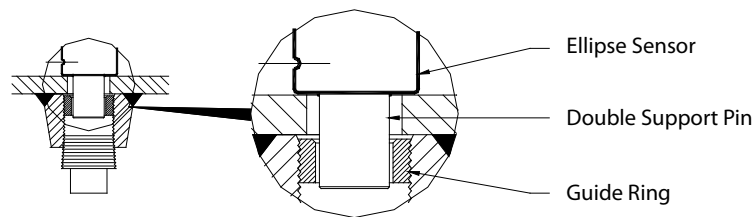

Figure 6: Double support pin
- Install the AS Ellipse sensor through the two holes. Make sure that the double support pin passes through the guide ring. See Figure 6.